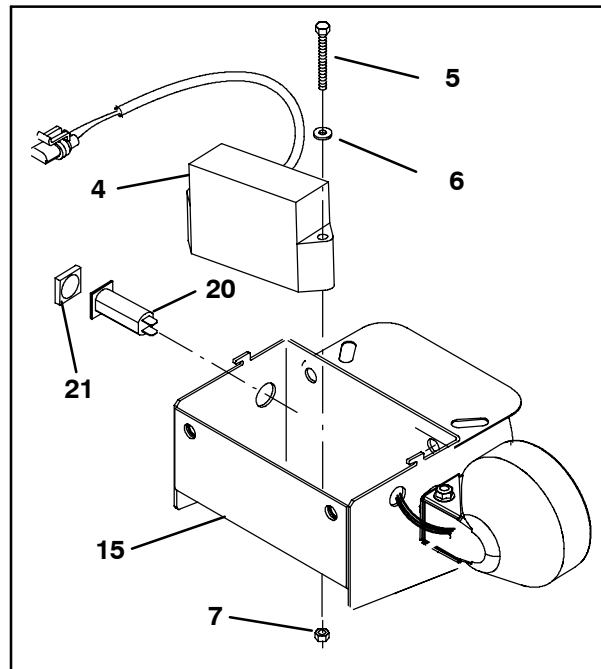

FIG. 4
11. Route the backup alarm (1) wires through the hole in the alarm bracket (15) and into the interior of the alarm bracket. Refer to Fig. 4.
12. Use two pan screws (5), two flat washers (6), and two hex nuts (7) to install the flasher (4) inside the alarm bracket (15). Refer to Fig. 4.
13. Install the boot (21) onto the 5 Amp circuit breaker (20). Refer to Fig. 4.
14. Insert the 5 Amp circuit breaker (20) into the alarm bracket (15). Refer to Fig. 4.